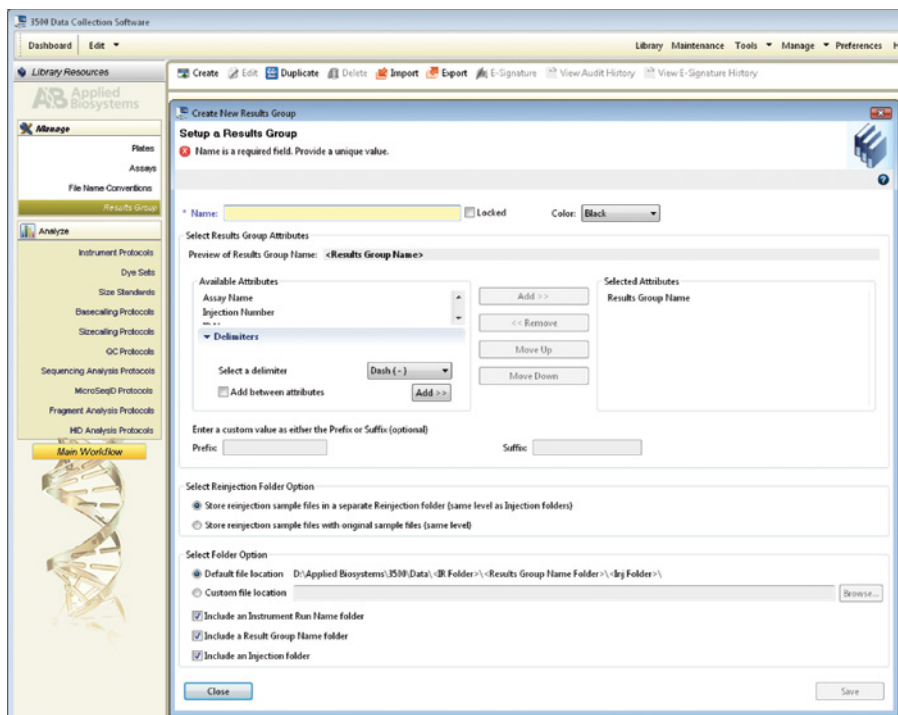

Figure 7. The ‘Create New Results Group’ window.
2.f. To create a new Results Group (Figure 7), navigate to the Library. Select **Results Group**, then select **Create**. Alternatively, a previously created Results Group may be used.